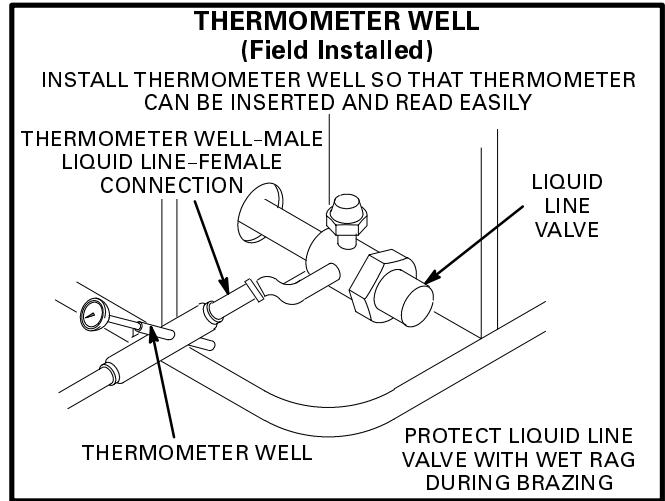

FIGURE 5
- 2- The thermometer well (packaged separately and attached to the liquid line) should be installed in the liquid line close to the HP23 unit as shown in figure 5. Connect thermometer well male end to female end of liquid valve. Take care to install thermometer well so that the thermometer can be inserted and read easily. Wrap a wet cloth around the liquid line valve body and copper tube stub to protect from heat damage during brazing. Wrap another wet cloth underneath the liquid valve to protect the base paint.